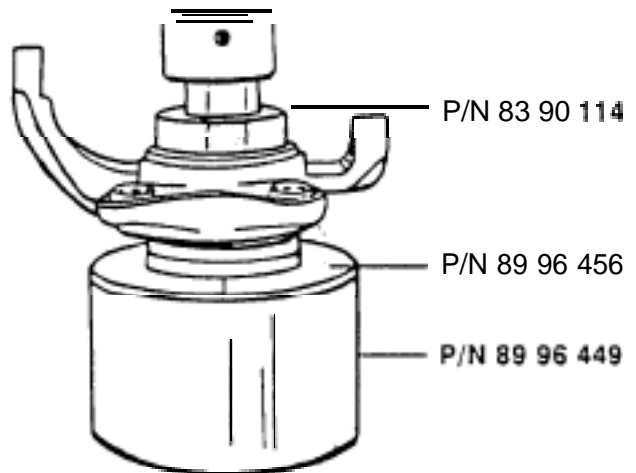

Figure 2. Place the steering knuckle on a press and press the bearing into contact with the outer snap ring.
3. Place the steering knuckle on a press and using the tools shown in Figure 2, press the bearing into contact with the outer snap ring.